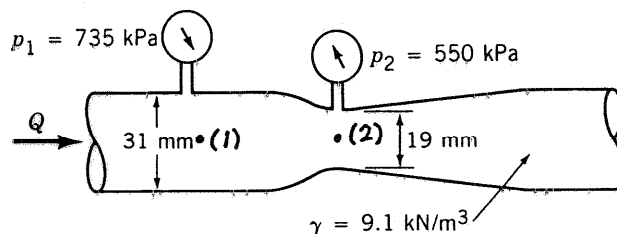

FIGURE P3.73
3.73 Determine the flowrate through the Venturi meter shown in Fig. P3.73 if ideal conditions exist.